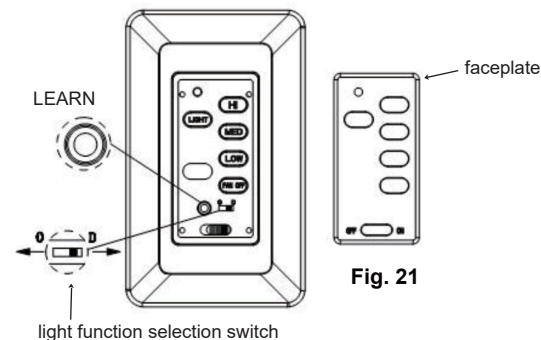

Fig. 21
ACTIVATING THE LEARNING PROCESS(Fig.21)
1. Use a small flat screw driver and gently pry the faceplate apart from the top of wall transmitter. (Fig.21)
2. After installation is complete, AC power is turned on and OFF/ON SWITCH is at ON position within 30 seconds, press and hold the LEARN button for 3 seconds. Fan will turn on at medium speed and light (if installed) will turn on. This confirms that the SMART SYNC setting is active and ok. (FIG. 21)
LIGHT FUNCTION SELECT SWITCH(Fig.21)